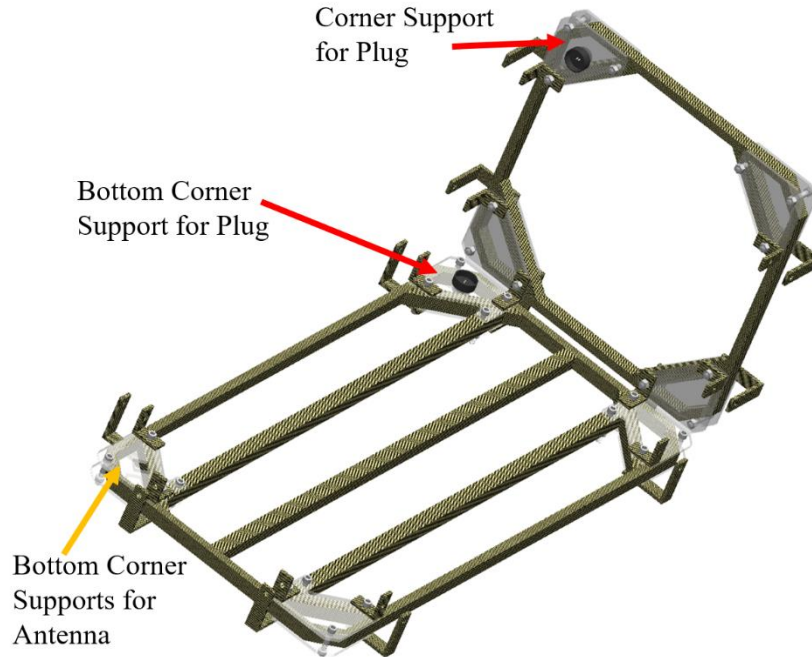

Figure 1.1
1. Attach the Bottom Coil (PN ASMB009) and Right Coil (PN ASMB005) as shown in Figure 1.1. The Right Coil edge with no bolted brackets furthest from the plug should be bolted to the short edge of the Bottom Coil with the Bottom Corner Support for Plug. The Right Coil should slot in between the two Longer Outer Angle Bracket and Inner Angle Bracket pairs on the Bottom Coil. Bolt the currently unbolted holes in the brackets to the unbolted holes in the acrylic supports on the Right Coil using two 2.5" 3/8-16 bolts (PN OUTS003), and two 3/8-16 nuts (PN OUTS004). Note: match drill to fit as needed.